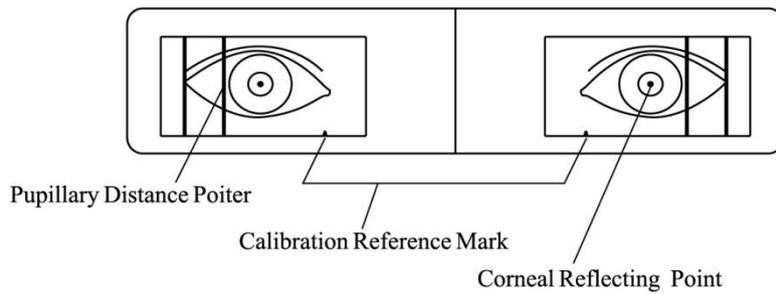
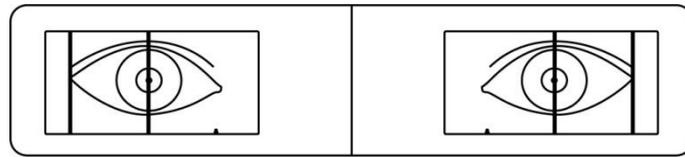

Fig. 7a (The sight the tester observes through measuring window)
Fig.7b (The left and right pointers coincide with the reflecting bright dots)
- d. The tester observes the reflecting light spot on the testee's pupil through measuring window. Slide the Left and Right Pupils Measuring Keys, the left and right pupillary distance pointers will coincide with the reflecting light spots of the testee's left and right pupils, respectively(as shown in Fig.7a and Fig.7b). The data shown in the display window are the measured pupillary distance.